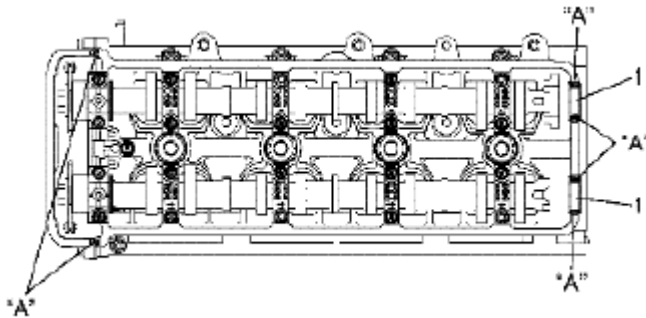

Fig. 33: Identifying Cylinder Head Side Seals
3. Install new cylinder head side seals (1) to cylinder head.
4. Apply sealant "A" to cylinder head sealing surface area as shown in **Fig. 33**.